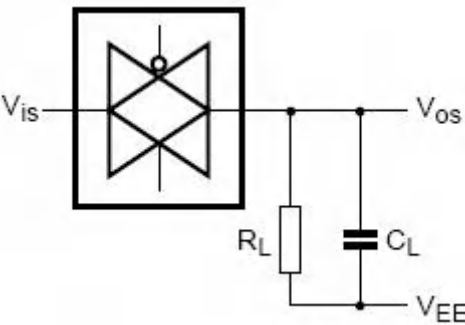

图7、方波失真度、关断频率和导通频率测试图
2、 $R_L = 1\text{ k}\Omega$; $C_L = 5\text{ pF}$, 通道关断, $20\log V_{os}/V_{is} = -50\text{ dB}$, 见图7
3、 $R_L = 1\text{ k}\Omega$; $C_L = 5\text{ pF}$, 通道开, $20\log V_{os}/V_{is} = -3\text{ dB}$, 见图7